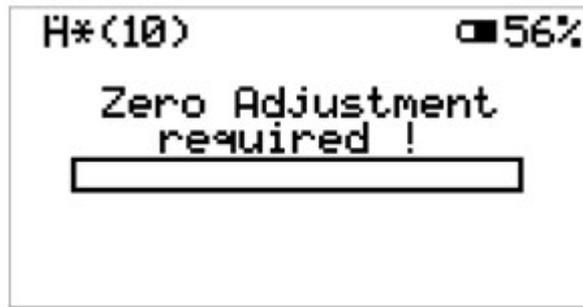

Fig. 10) Zero adjustment request
When switching on the device by actuating the meter switch (15), the device automatically requests a zero adjustment (see fig. 10).